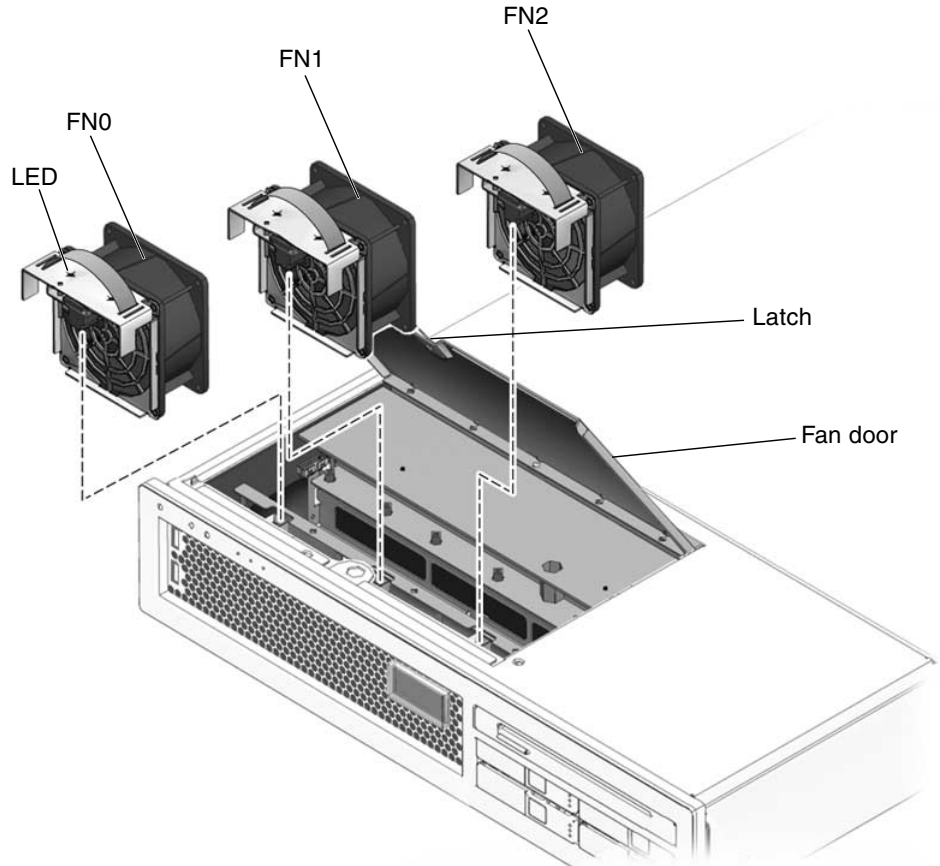

FIGURE 4-1 Fan Identification and Removal
1. Gain access to the top of the server where the fan door is located (FIGURE 4-1).
3. **Lift the latch on the top of the fan door (FIGURE 4-1), and lift the fan door open.**